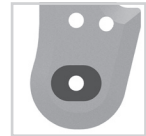

fig. 7
- 2 Put the bearing nut into the joint's upper part. The whole bearing nut must be placed in the opening (fig. 7).